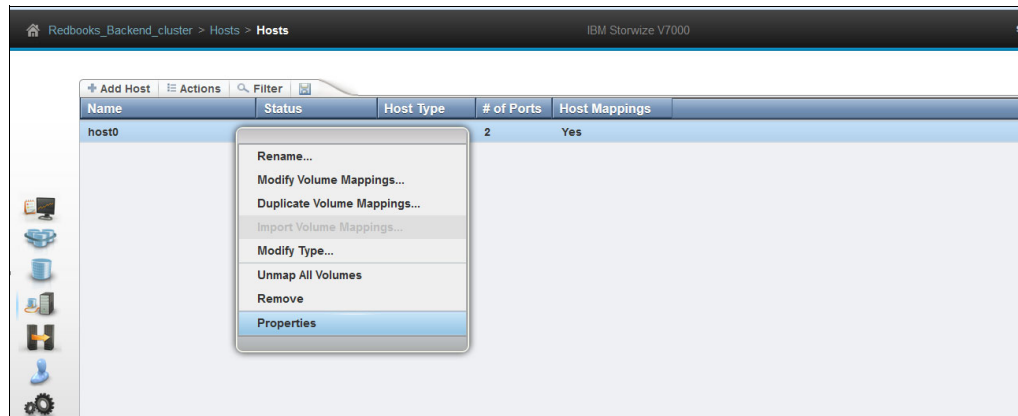

Figure 15-4 Changing the properties of the host object
- c. Right-click the host object and click **Properties**, as shown in Figure 15-4.